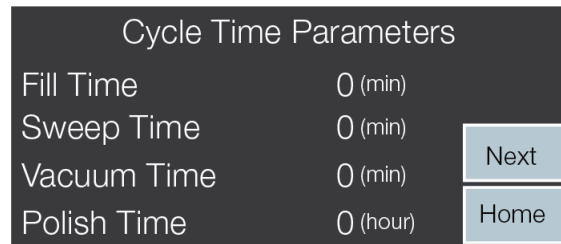

Figure 6. Cycle Time Parameters Screen
1. Touch the **Next** button to display the Cycle Time Parameters screen (see Figure 6).